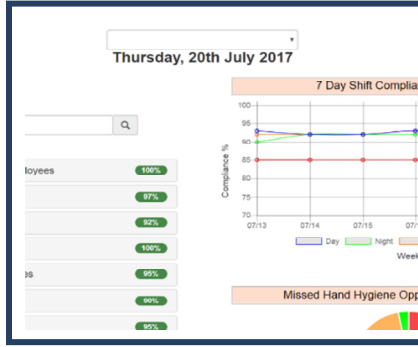

Figure 15. Main Dashboard Page
4. When access is granted you should see the screen shown in *Figure 15*.